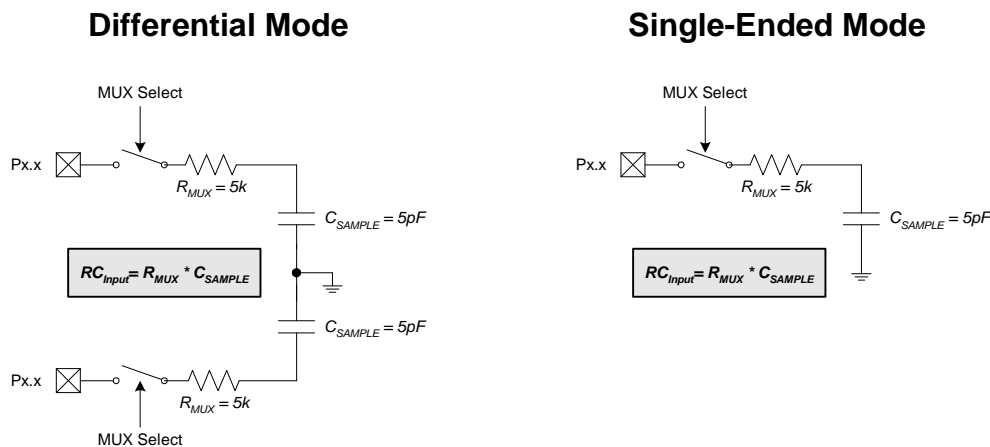

Figure 5.5. ADC0 Equivalent Input Circuits
Figure 5.5 shows the equivalent ADC0 input circuits for both Differential and Single-ended modes. Notice that the equivalent time constant for both input circuits is the same. The required ADC0 settling time for a given settling accuracy (SA) may be approximated by Equation 5.1. When measuring the Temperature Sensor output or  $V_{DD}$  with respect to GND,  $R_{TOTAL}$  reduces to  $R_{MUX}$ . See Table 5.1 for ADC0 minimum settling time requirements.